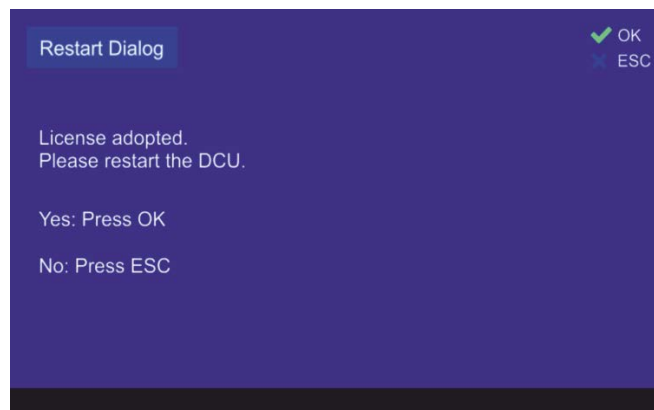

Fig. 165 New license adopted
- After confirming the new valid license with “OK”, a dialog opens, which requests the restart of the system. (s. Fig. 165).